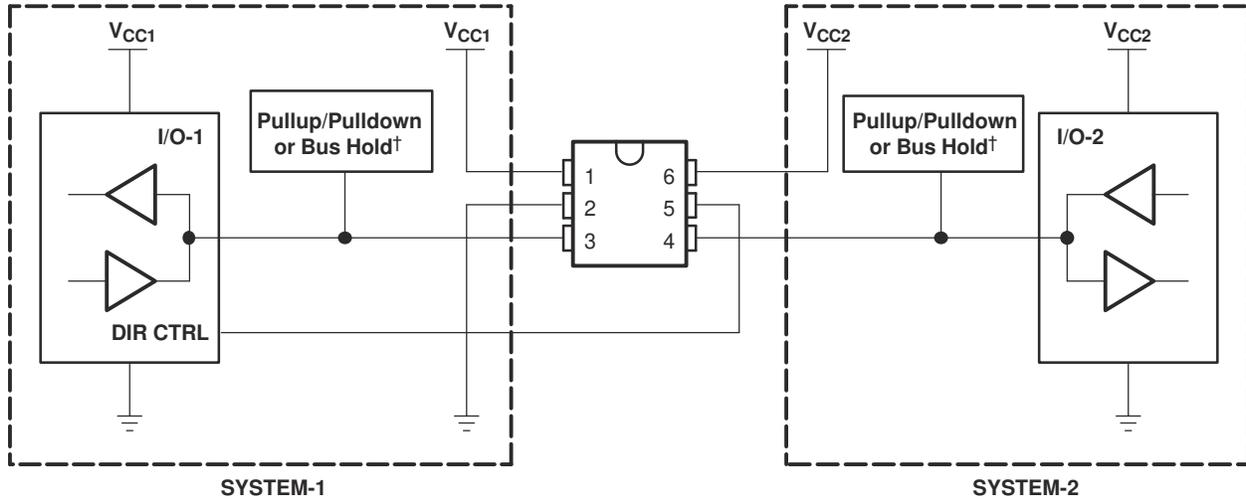

图 8-3. Bidirectional Logic Level-Shifting Application
图 8-3 shows the SN74AXC1T45 being used in a bidirectional logic level-shifting application. Because the SN74AXC1T45 does not have an output-enable (OE) pin, the system designer should take precautions to avoid bus contention between SYSTEM-1 and SYSTEM-2 when changing directions.